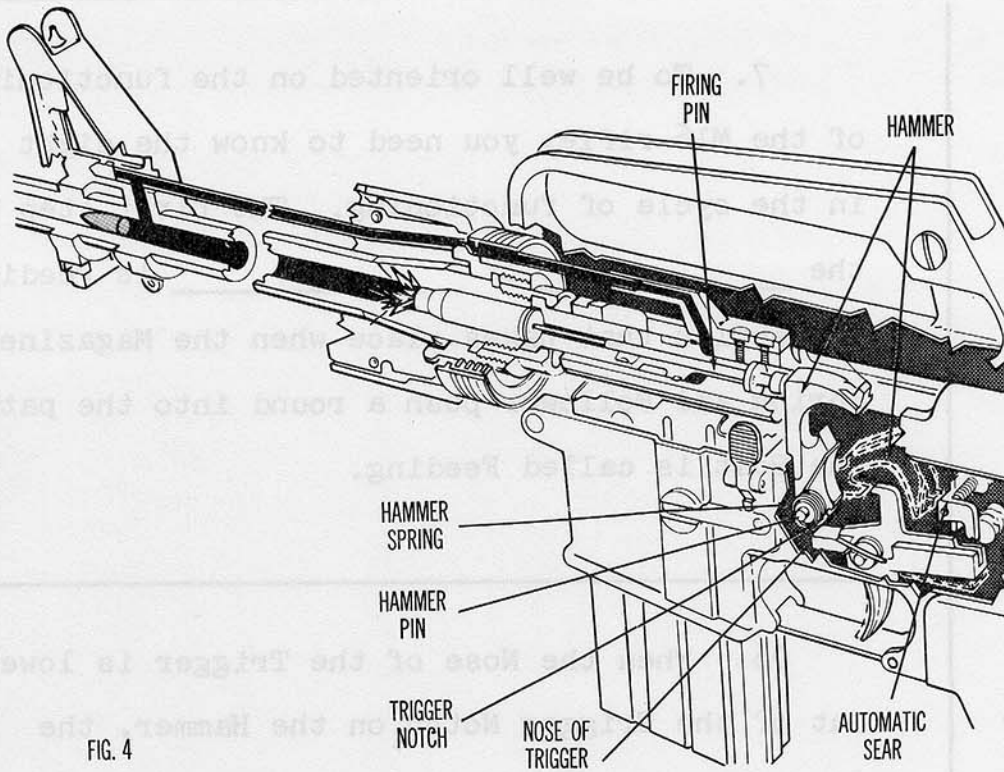

FIG. 4
26. When the Nose of the Trigger is lowered out of the Trigger Notch on the Hammer, the Hammer, under the force of the expanding Hammer Spring, pivots on the Hammer Pin and strikes the Firing Pin. This action forces the Firing Pin (fig. 4), forward to strike and detonate the primer of the round and fire it.